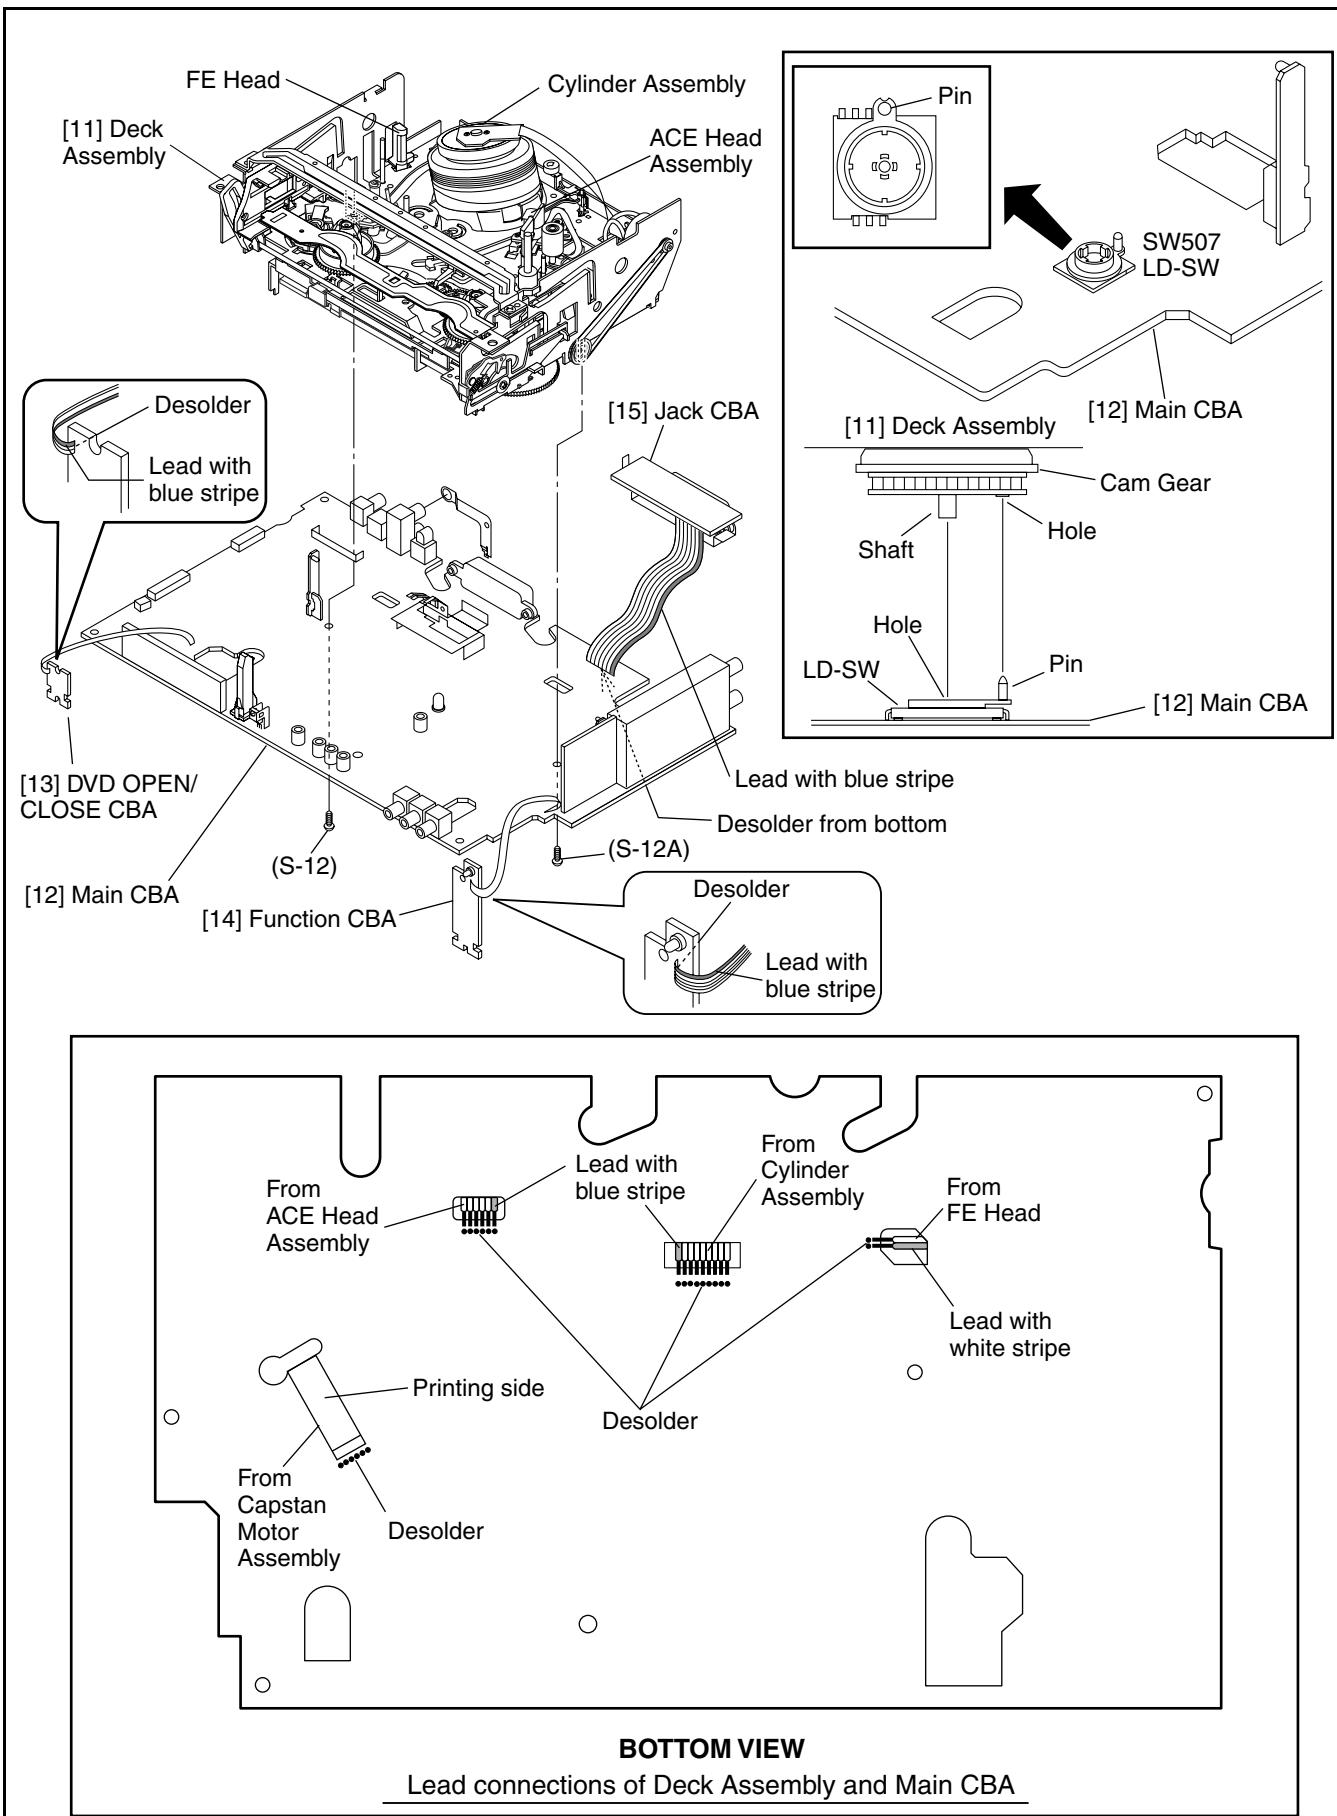

Fig. 4-1-8
**CAUTION 4:** When reassembling, solder wire jumpers as shown in Fig. 4-1-8.
**CAUTION 5:** Before installing the Deck Assembly, be sure to place the pin of LD-SW on Main CBA as shown in Fig. 4-1-8. Then, install the Deck Assembly while aligning the hole of Cam Gear with the pin of LD-SW, the shaft of Cam Gear with the hole of LD-SW as shown in Fig. 4-1-8.